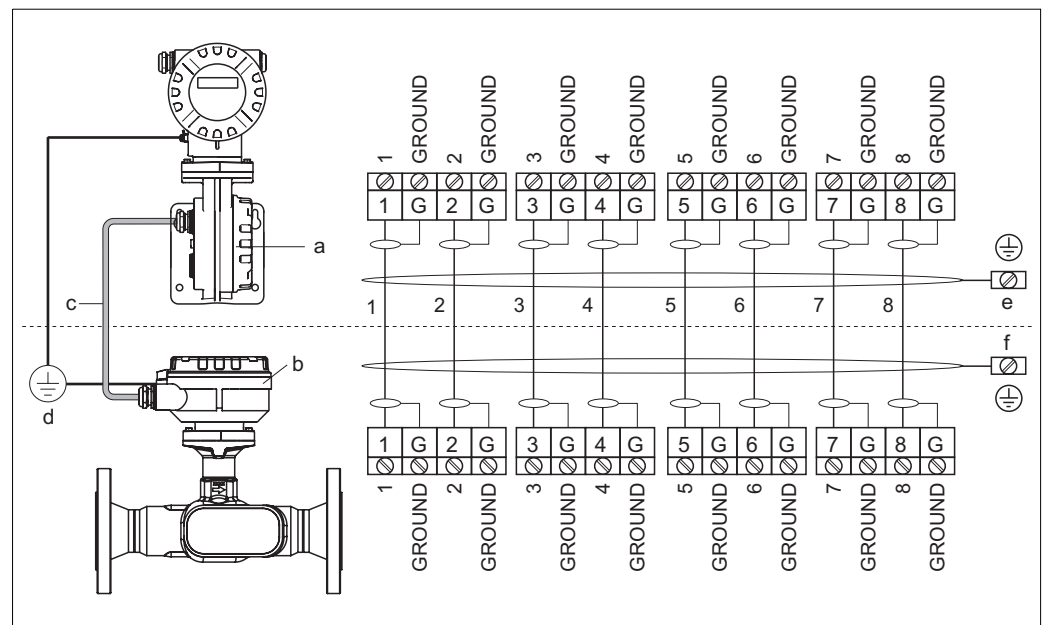

Fig. 12: Connecting the remote version
- The remote version must be grounded. In doing so, the sensor and transmitter must be connected to the same potential matching (see Fig. 12, d).
3. Wire the sensor and transmitter in accordance with the electrical connection diagram: see Fig. 12 or the wiring diagram in the cover of the connection compartment